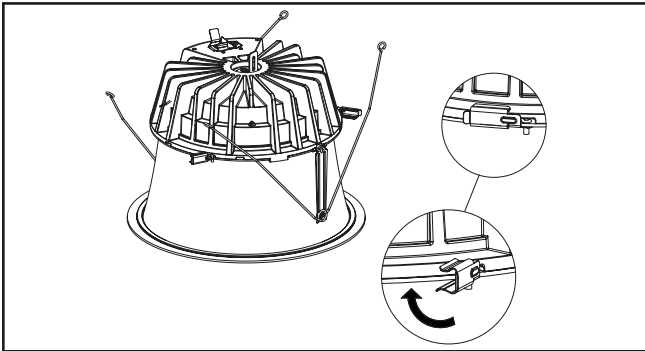

Figure 38.
- Rotate side clips (3) into place to securely attach trim assembly to LED engine (Figure 38).